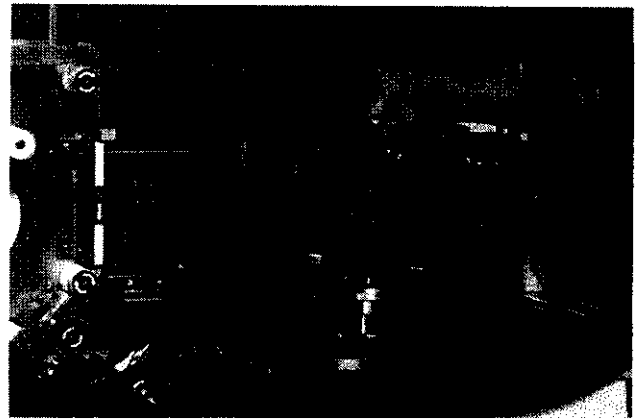

Figure 2-H
2. Grasp the 12-position unloading unit by the handle (Figure 2-H), located in the middle of the unit.